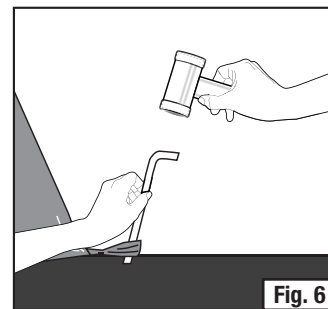

Fig. 6
4. Stretch webbing loops along the bottom edge of sidewall, then secure with stakes. (Fig. 6)